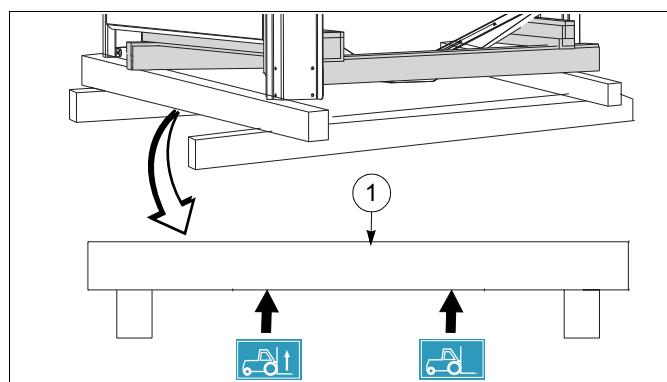

fig. 13 Transport frame
1. Lift the machine by forklift truck or pallet wagon, and move the packaged machine to the desired location. Use a transport frame **1** for this. See fig. 13